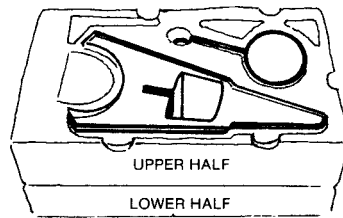

Figure 3.
1. Remove the poly-container from the shipping carton and place it so that you can see the base and specific gravity stand. See Figure 3.